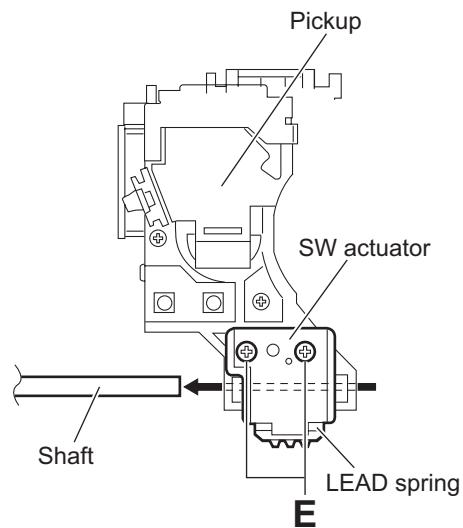

Fig.9
- From the bottom side of the pickup, remove the two screws **E** attaching the SW actuator and LEAD spring. (See Fig.9.)
- Pull the shaft out of the pickup. (See Fig.9.)
- (1) Attach the shaft, SW actuator and LEAD spring to the pickup. (See Fig.9.)